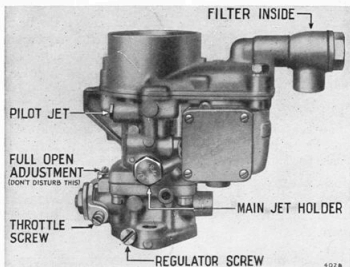

Fig. 30.
Slow running adjustments are provided and these are the only points that may require attention after the engine has become run-in. Two adjusting screws are shown in Fig. 30, one for limiting the closing of the throttle and thus the idling speed. The other screw regulates the strength of the idling mixture. There is also a screw which sets the full open position. Don't interfere with this.
**CLEANING THE JETS AND FILTER.** It may happen that foreign matter enters the float chamber and is sucked into the jets, so preventing the flow of fuel and causing the engine to falter. Fig. 30 shows the jets which may be removed for cleaning purposes. Care should be taken not to enlarge the jet orifice. The filter incorporated in the fuel pipe union can be removed for cleaning after the union bolt has been removed.